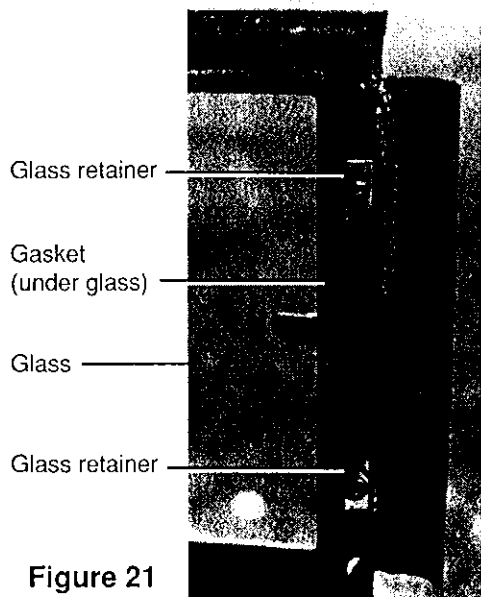

Figure 21
- Carefully remove all broken glass, gasket material, screws, and glass retainers. See **Figure 21**.